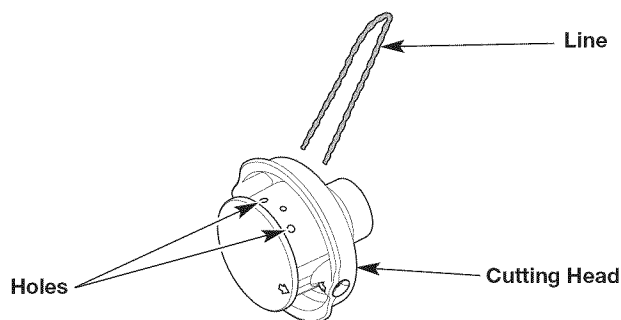
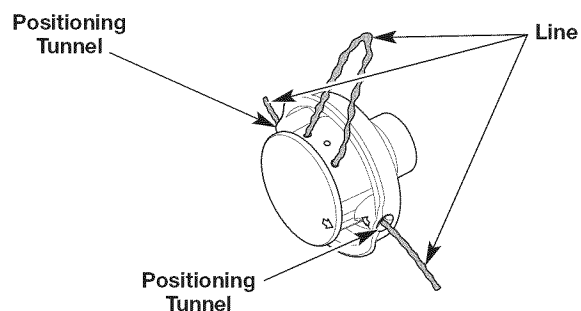

Fig. 14
Fig. 15
3. Insert the ends of the line through the large circular holes in the side of the cutting head (Fig. 14). Push the line through the holes until both ends protrude from the positioning tunnels (Fig. 15).